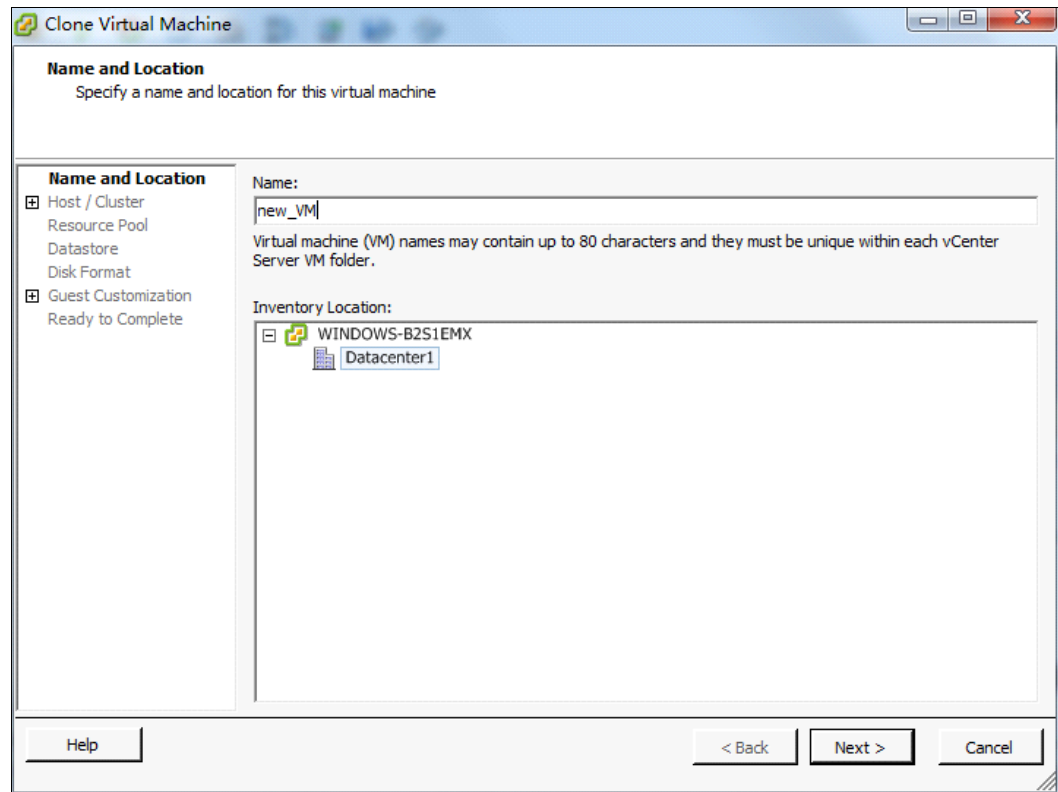

Figure 3-55 Clone Virtual Machine wizard: Name and Location
2. The Clone Virtual Machine wizard starts. Enter the name and the location of the destination virtual machine, as shown in Figure 3-55. Click **Next**.